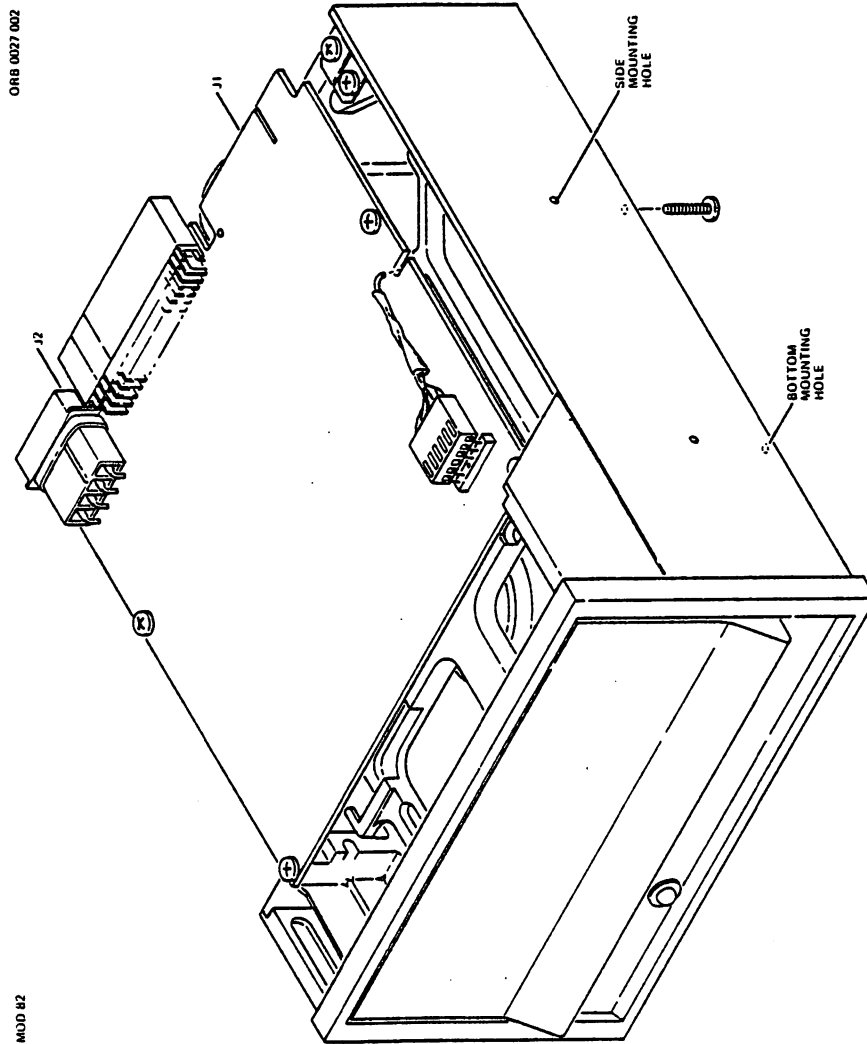
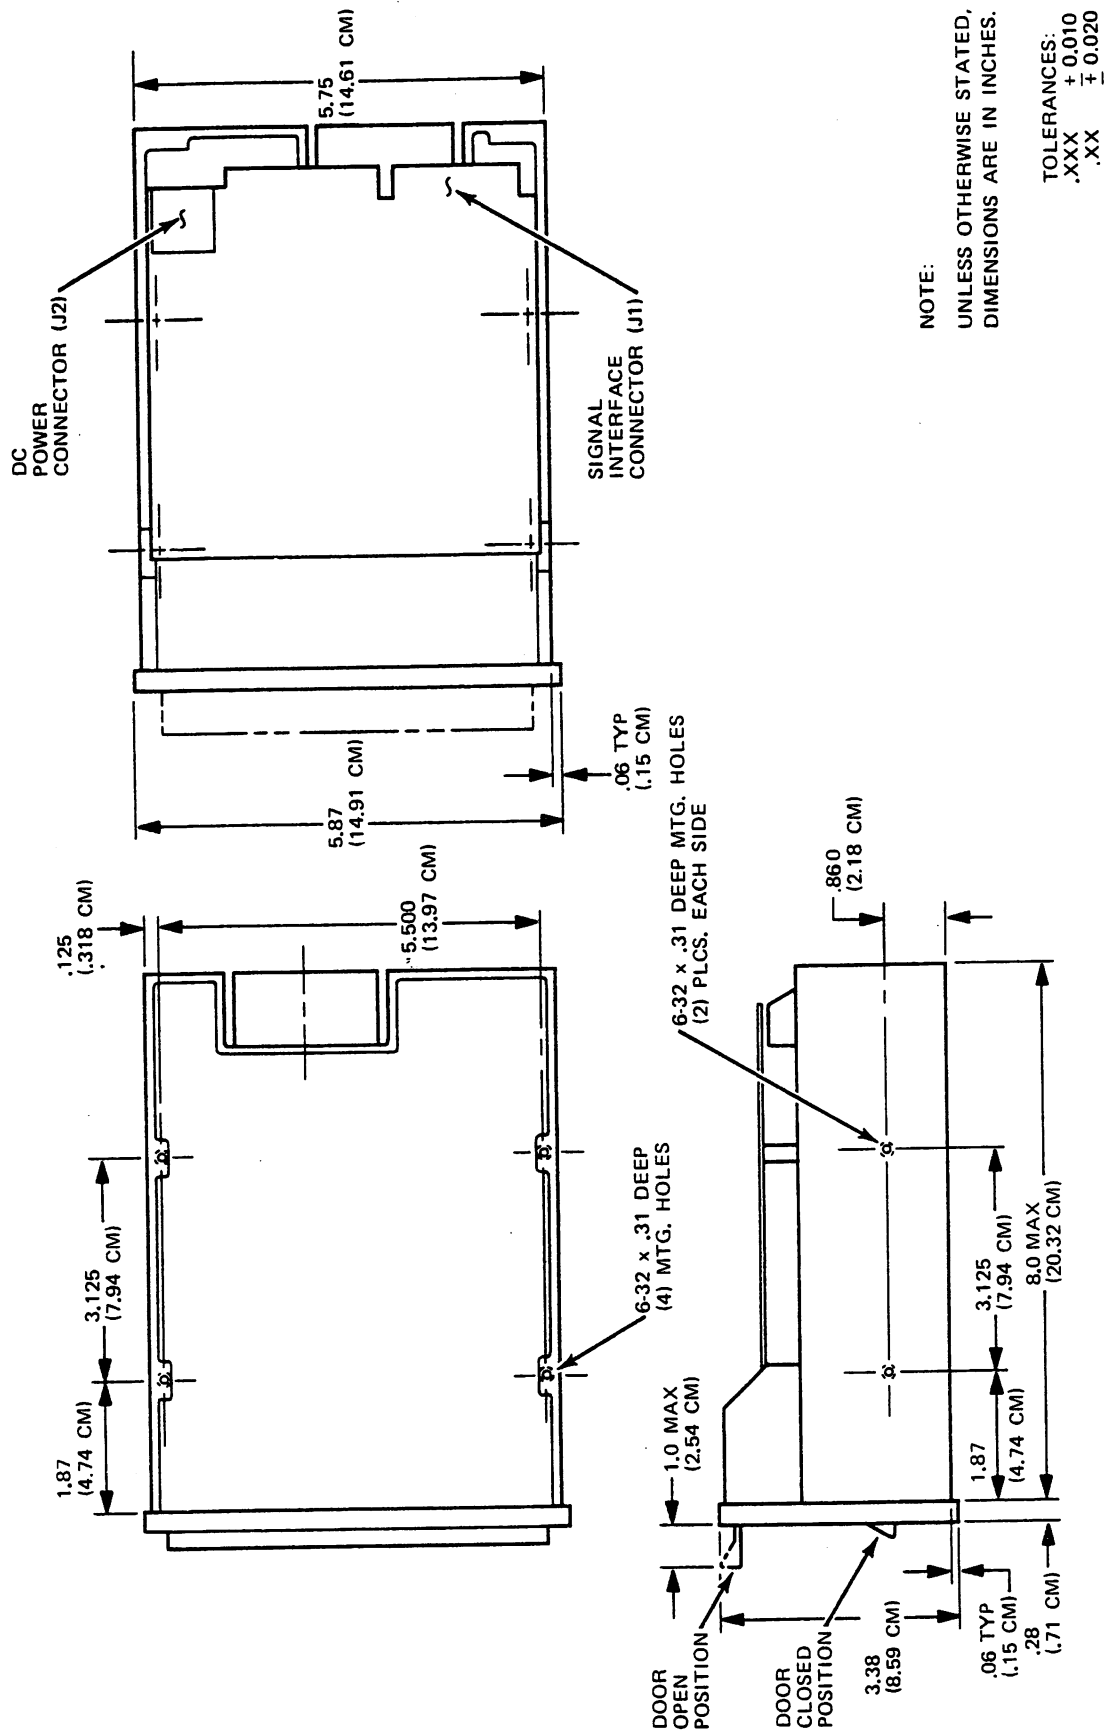

Figure 2-1. Model 82 - Isometric View
Figure 2-2. Outline and Mounting Dimensions
- C. Vertically, with the door opening upwards. Figure 2-1 is an isometric view, and Figure 2-2 shows the outline and mounting dimensions.